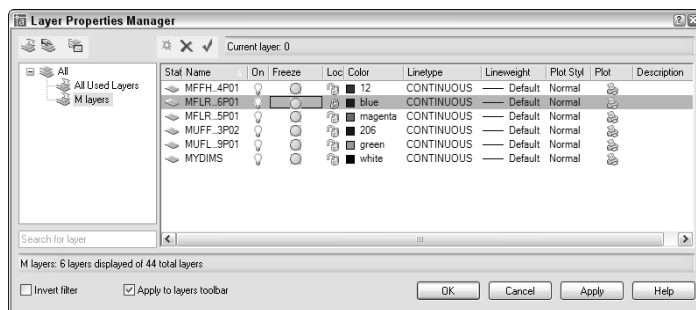

Figure 11-16: The Layer Properties Manager now shows only layers starting with the letter **M**.
4.  Click the New Property Filter button.. In the Filter Name text box, type **M layers**. In the Name column, type **m*** (the asterisk is already there, so just type **m** before the asterisk) to list all layers starting with the letter **M**. Click OK. The layer list now looks like Figure 11-16.